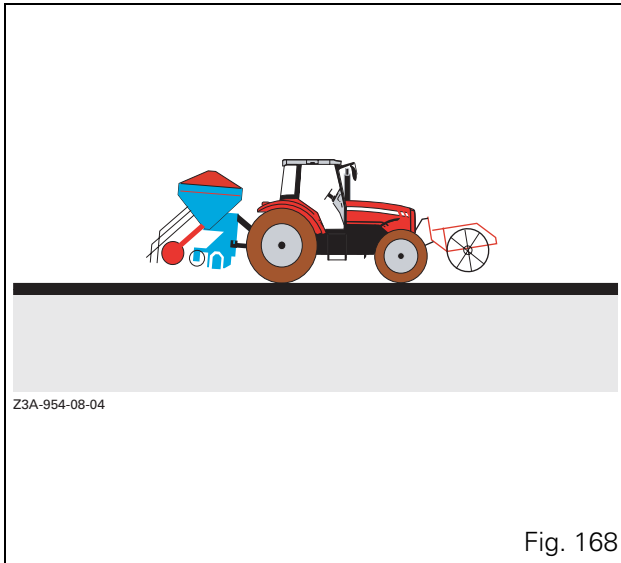

Fig. 168
- Set the front and rear implements in the high position (Fig. 168) using the following controls: